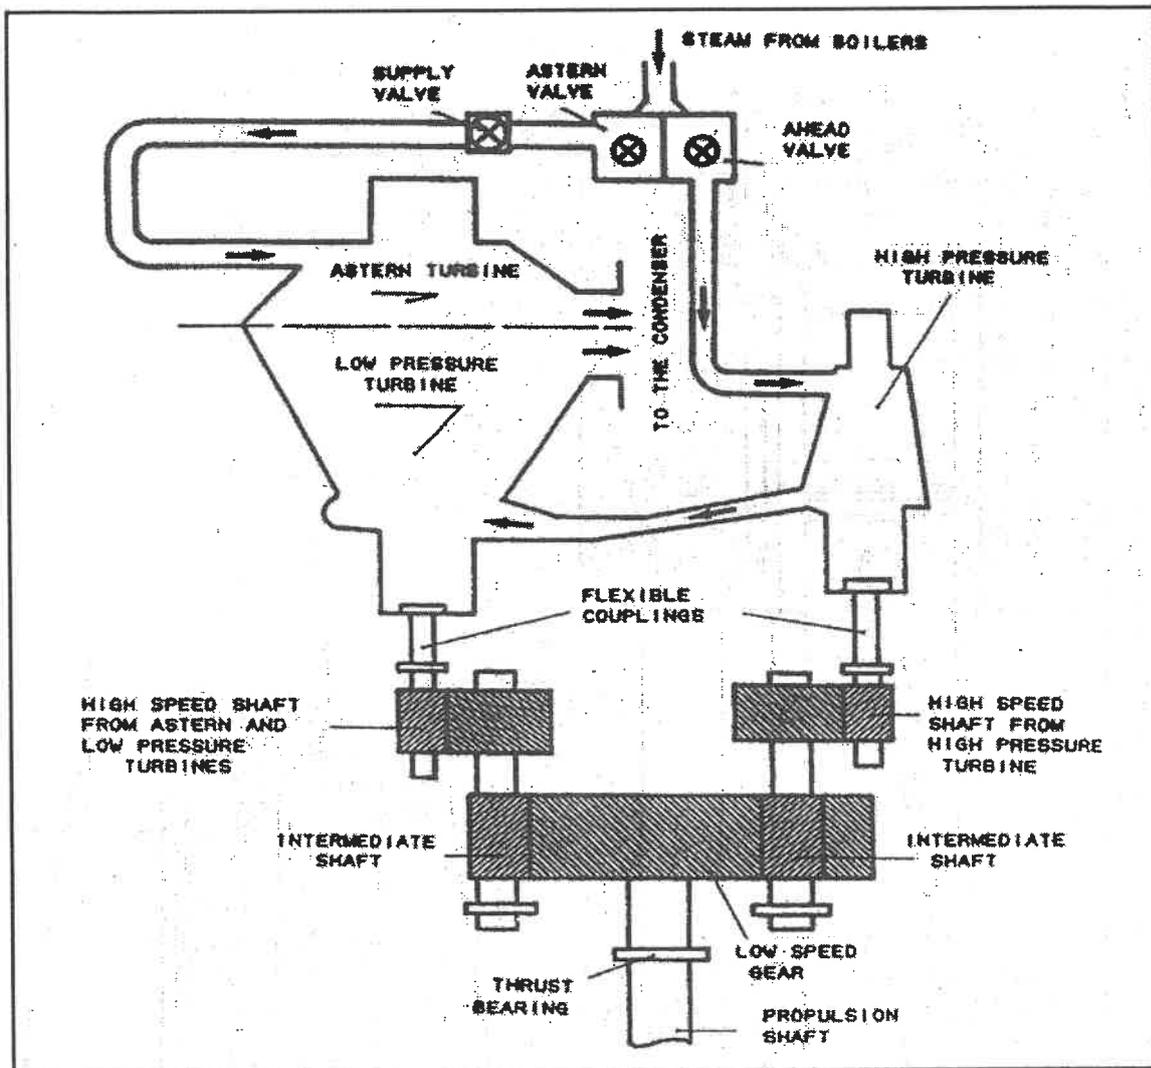

Figure 1: steam turbine propulsion system diagram
- a) Outline the complete operating cycle of figure: 1 steam in a marine steam turbine propulsion system diagram given, starting from the boiler and ending at the condenser. Include in your explanation the function of each of the following components: high-pressure turbine, low-pressure turbine, astern turbine, flexible couplings, and reduction gearing
- b) Based on Figure 1 diagram, identify and describe the role of three shafts in the system. Determine why speed reduction is necessary in marine turbine propulsion.